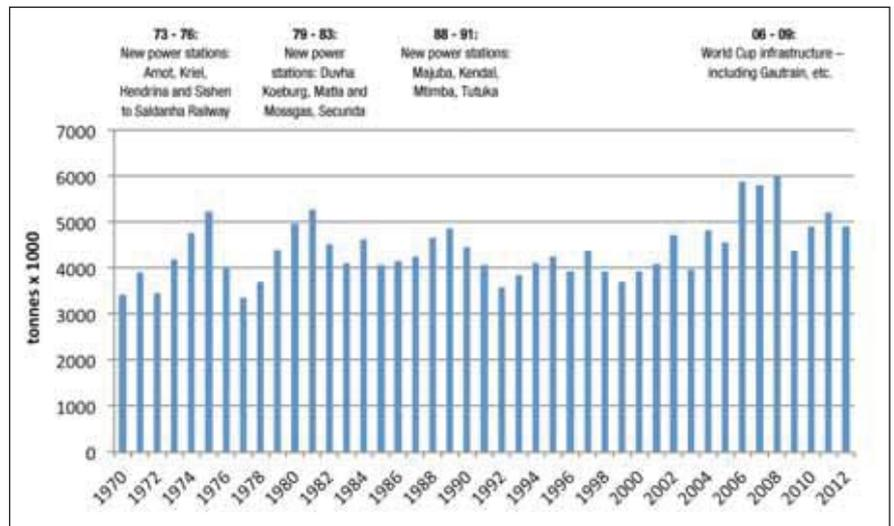

Figure 2. Apparent domestic demand of steel in South Africa since 1975.
trolled by factors beyond the industry's control, namely Industrial Production (IP) and Gross Capital Formation (GCF) previously known as Gross Domestic Fixed Investment (GDFI). Over the years IP and GCF growth rates have been low for extended periods. Flurries have resulted in kicks in steel sales but most increases of activity can be attributed to project activity within the country as clearly shown in figure 2.